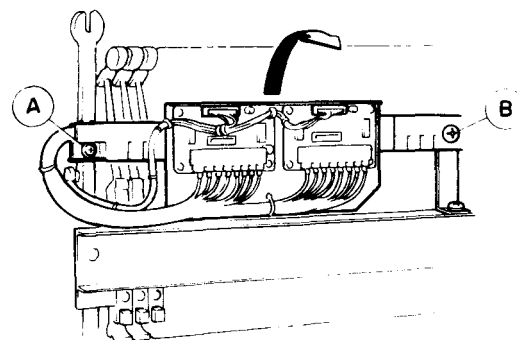

Figure 7.
- 17) loosen the two attachment screws on the right and left of the action bracket (see (A) on Figure 7), and remove the two center screws attaching the Hammer Sensor Unit (see (B) on Figure 7).